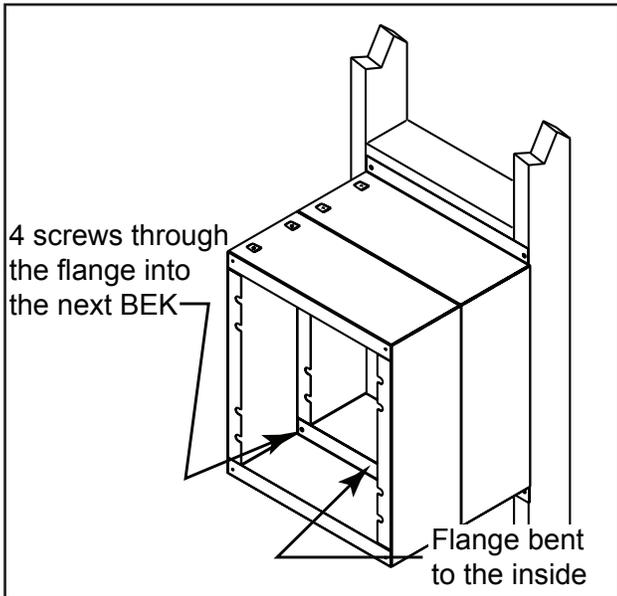

Figure 2.11 Stacking Boxes
- Bend the two outside flanges of the second box around to the inside of the box. See Figure 2.11.
- Secure the second box to the first using four #8 x 1/2 sheet metal screws. See Figure 2.11.